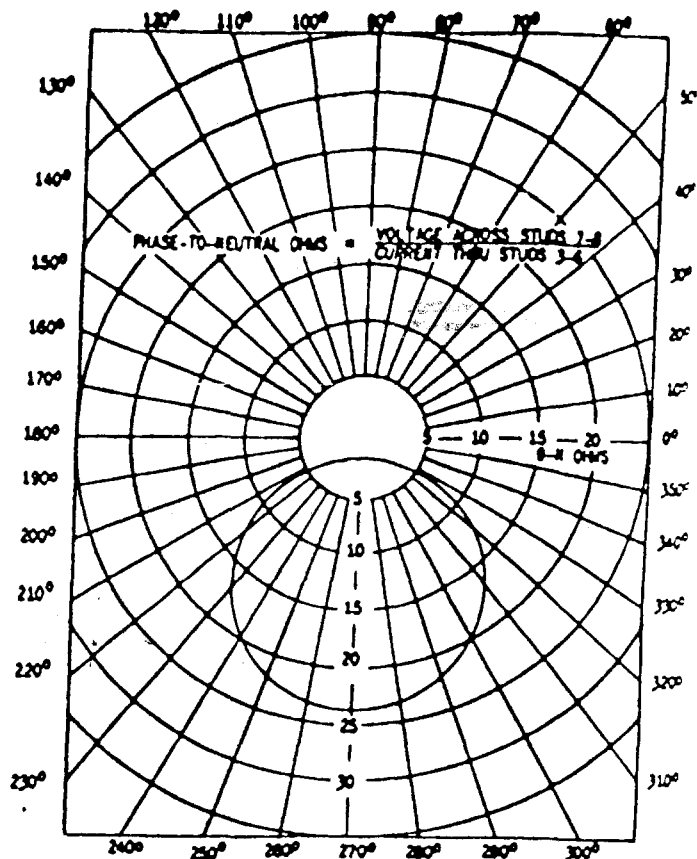

Fig. 7 (402A977-1) Characteristics Of Type CEH11A Relay With 2-Ohm (Phase-to-Neutral) Offset And 23 Percent Tap Setting
3. Draw relay characteristic on polar paper with center at 90 degrees lead using distance from origin and diameter calculated above. (See Fig. 7).